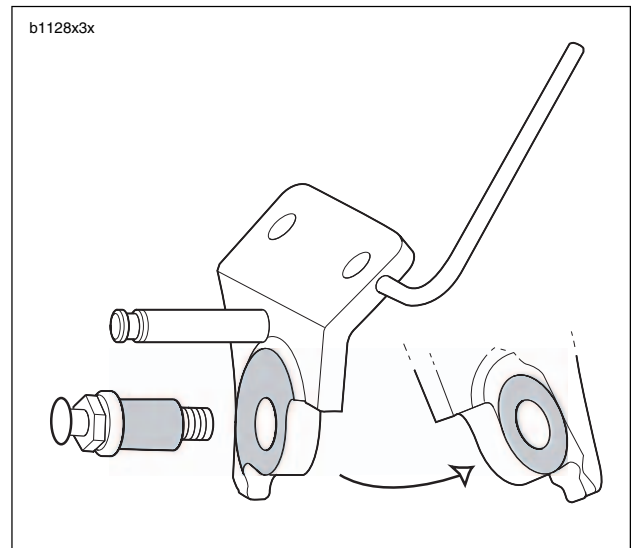

Figure 2-122. Lubricating Points (Shaded Areas)
1. Install sidestand leg (1).
- a. See Figure 2-122. Lubricate sidestand pivot bolt (5) and mating portions on sidestand bracket (2) with WHEEL BEARING GREASE (Part No. 99855-89) as shown in Figure 2-122.